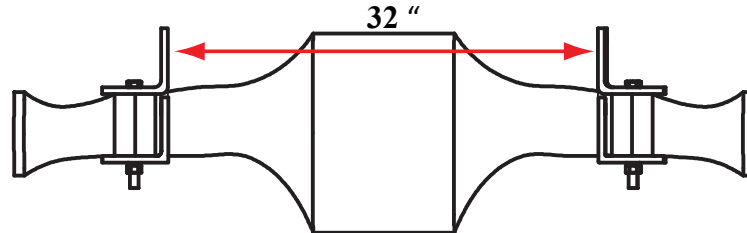

Figure 2
Step 4. Adjust (with hammer taps if needed) left and right axle brackets so that the inside measurement of the axle brackets is 32 inches. (Figure 2)